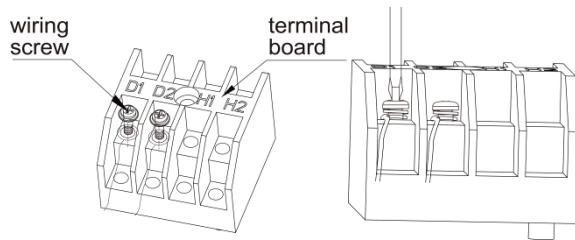

Fig 5.3.1
- (1) Open the cover of electric box of indoor unit.
- (2) Lead the communication line across the rubber ring.
- (3) Connect the communication line to terminal D1 and D2 on the 4-digit wiring board of indoor unit, as shown in Fig.5.3.1(D1D2 Rated Voltage/Current 5V/100mA, Class II).